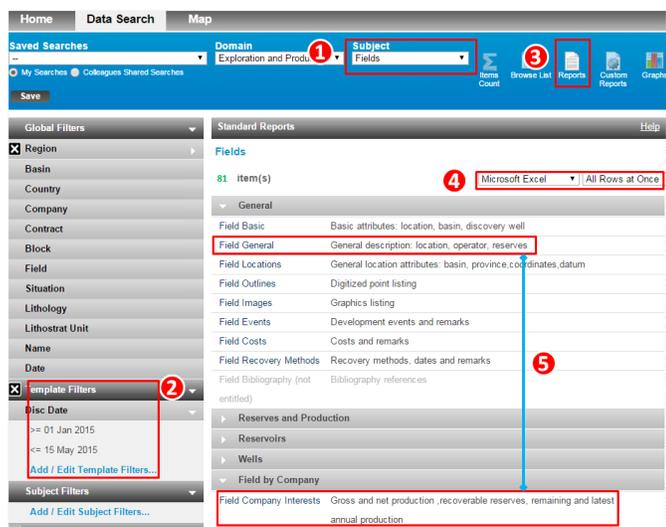

Fig 1-4: Search Fields in EDIN
- (1) Switch **Subject** to Fields (Fig 1-4).
- (2) Set **Template Filters** and click **Add/Edit Template Filters**.
- (3) Use **Reports** function by clicking on the icon.
- (4) Set output format as **Microsoft Excel** and **All Rows at Once**.
- (5) Choose **Field General** and **Field Company Interest** template by clicking on the title, which will save certain field attribute info locally into Excel for further analysis.